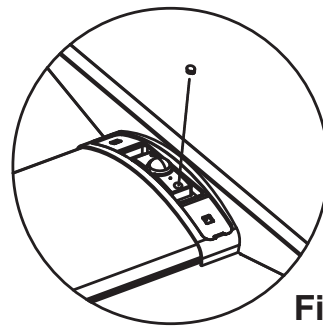

Fig. 4
3. Secure the c-Max™ node in place by fastening the included M3 button head screw with a Hex (Allen) key (not included). Once the screw is secured, cover it with the included silicone cap (see Fig. 4 - drawing for illustration only, actual screw may look different.)